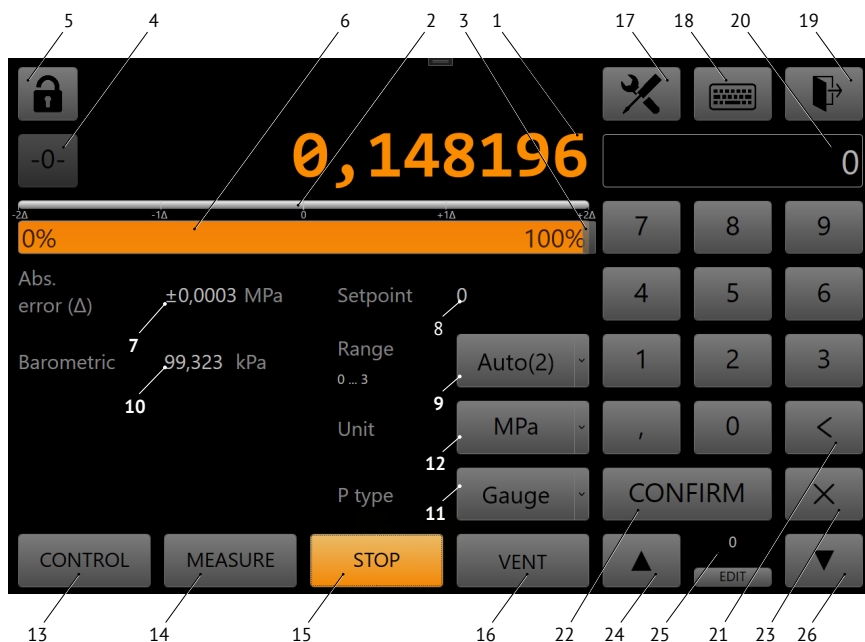

Fig. 6. Working screen elements
7.2 Upon completing the calibration, the working screen looks as follows (Fig. 6).
7.2.1 Protection of the screen from accidental pressings is carried out via locking the screen by pressing button 5 (Fig. 6). The unlock password is “0000”.
7.5.1 The pressure setting mode is switched on by the **Задание [Setting]** button on the main screen. For protecting the equipment connected to the calibrator, it is recommended to set the “maximum pressure” parameter (the **Ред. [Edit]** button under (14), Fig. 6) corresponding to the allowable operating pressure of this equipment. Then select the *absolute/excess pressure mode, units of measurement and sensor (Авто [Auto], 1, 2, 3)* on the main screen. If the *Авто* sensor is selected, the calibrator sets the pressure according to the sensor, within the range of which the set value lies, i.e. automatically. If a specific sensor (1, 2, or 3) is selected, the calibrator sets the pressure according to the selected sensor. If the setpoint is higher than the UML of the selected sensor, the calibrator goes into the *Авто* mode. On the numeric keypad, enter the desired setpoint value and press the **Ввод [Enter]** button. The pressure setting algorithm will start. When the pressure reaches the error margin (stabilization) limits, the color of the displayed pressure value in the output field (1 from clause 7.2) will change to green, and when these limits are exceeded, the color will turn orange again. Error margin (stabilization) limits are edited in menu  **Калибратор [Calibrator] → Предел стабилизации [Stabilization margin]** (clause 7.9.1).